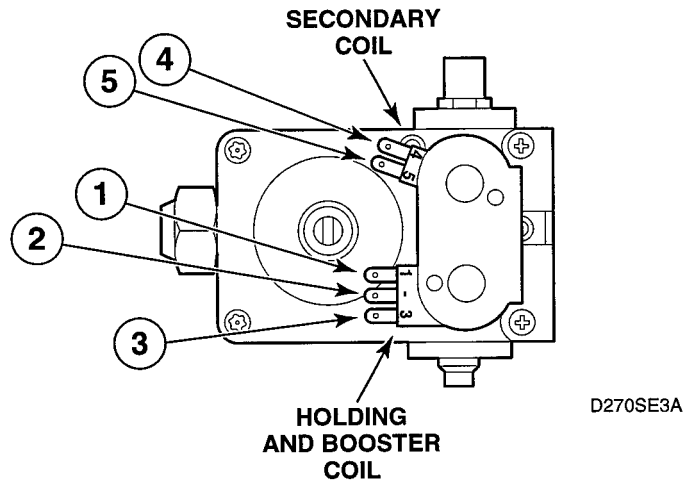

Figure 7-5
- Remove valve wire harness disconnect block from the holding and booster coil. See figure 7-5.
- Set test meter to read Ohms and put meter probes to terminals as in Figure 7-5, and the chart below.